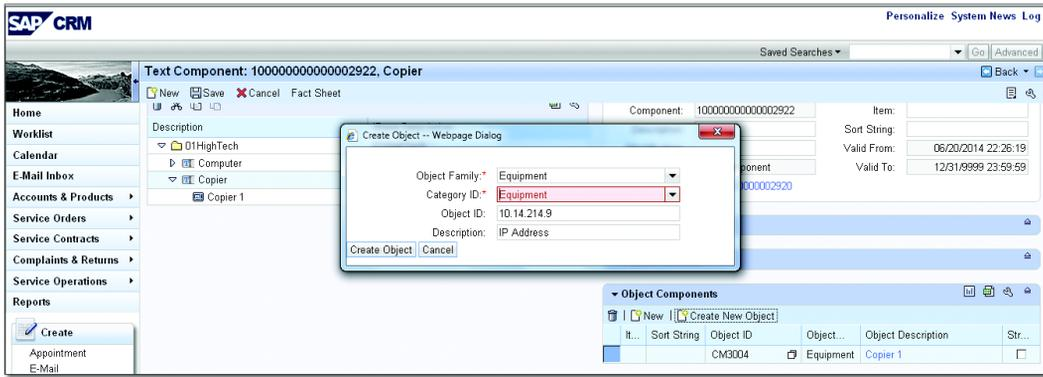

Figure 7.15 Creating the Object
5. After the configuration steps are completed, you can then create the object and assign the CATEGORY ID, as shown in Figure 7.15.